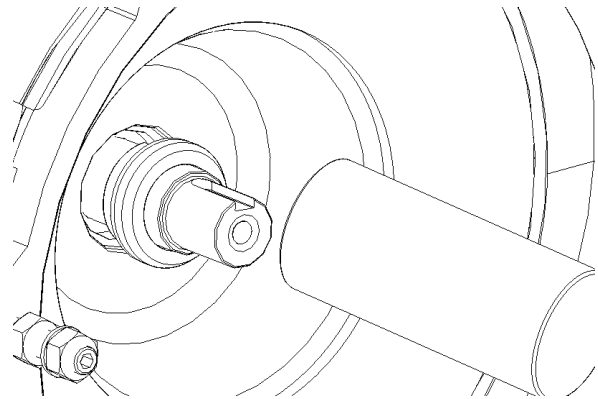

Figure 21: Installation with mounting sleeve, counter-ring
- The counter-ring with the O-ring is pushed back to the shoulder by means of the mounting sleeve shown on figure 21. (Attention! For type HJ 977, the recess of the counter-ring must be in alignment with the locking pin fixed in the box).